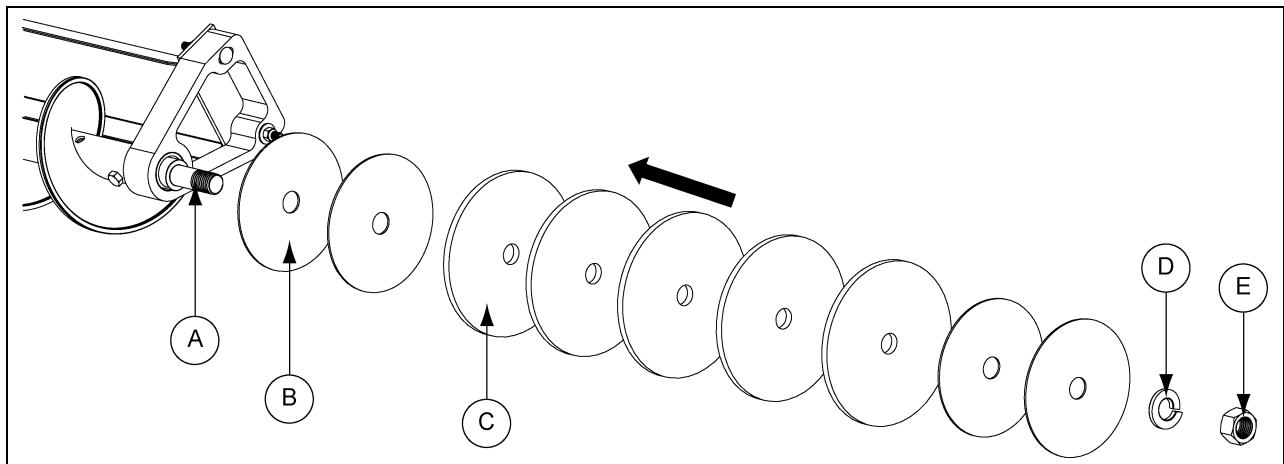

Figure 4AL
Step 14: Fit wheel. (See Figure 4AL.)